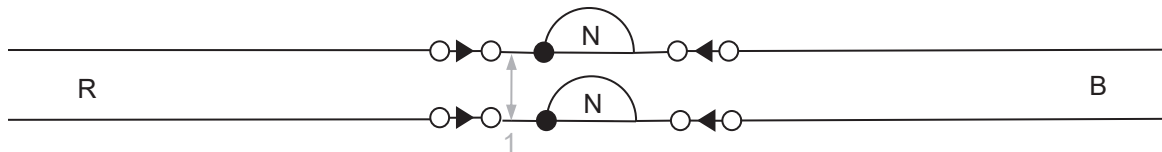

Figure 2: Line Circuit Configuration: Break, One Direction
4. Check Initial State	<ul style="list-style-type: none"> Switch the multi-meter to a low voltage range. Connect the meter to the line circuit terminals on relay side as indicated in Figure 2, with proper polarity. → Check the line voltage is present.